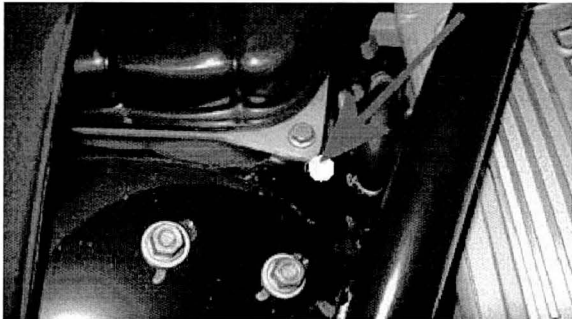

Figure 11
If the vehicle is not already listed as repaired in the "Repair history" (in Elsa Pro), check the vehicle for the Campaign identification mark, which is a White paint mark on the expansion tank bracket (Figure 11) should neither be evident please carry out the required work in accordance with the instructions.
5. Once complete, place a White paint completion mark on the expansion tank bracket (Figure 11)
White paint completion mark on the expansion tank bracket (see Figure 11)